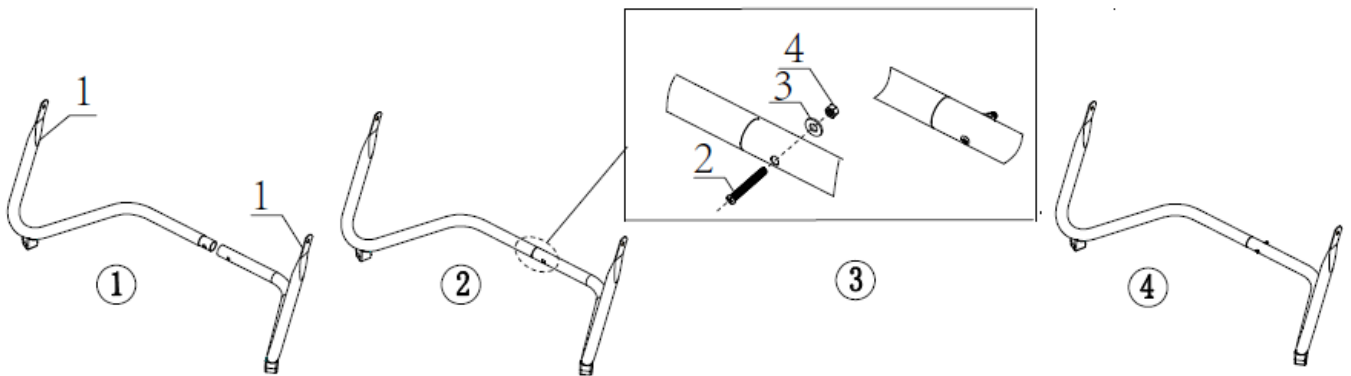

Fig. 1
Attach the right and left support brackets (1) together, and fix them by screw (2), washer (3) and nut (4). (Fig.1)